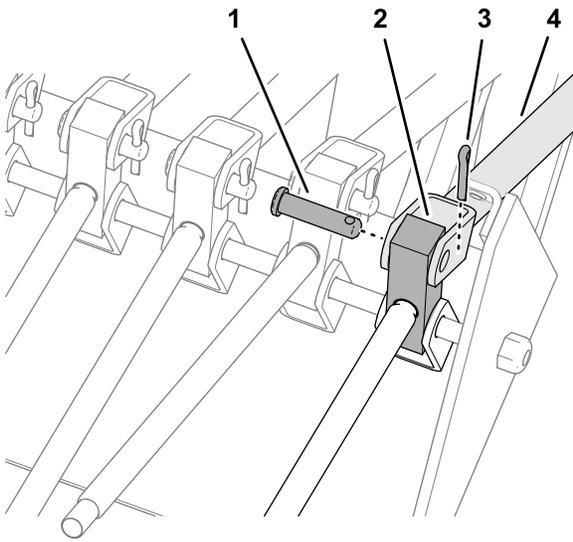

Figure 27
1. At the control console, align the holes in the fork of the control rod with the hole in the lever block (Figure 27).
- Secure the rod to the block with a clevis pin and cotter pin (Figure 27).